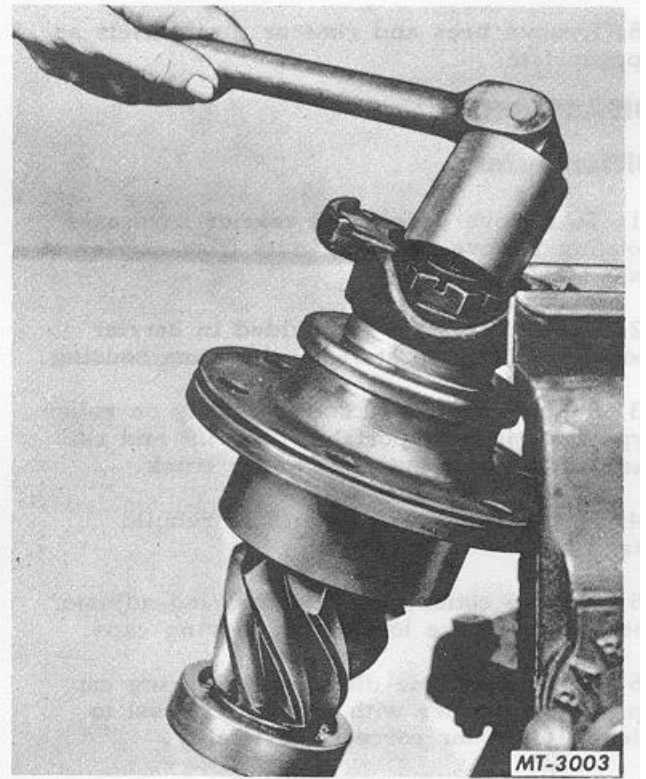

Fig. 6 Removing Pinion End Nut
15. Mount the pinion and cage assembly in a heavy duty vise and remove the pinion end nut as shown in Fig. 6.